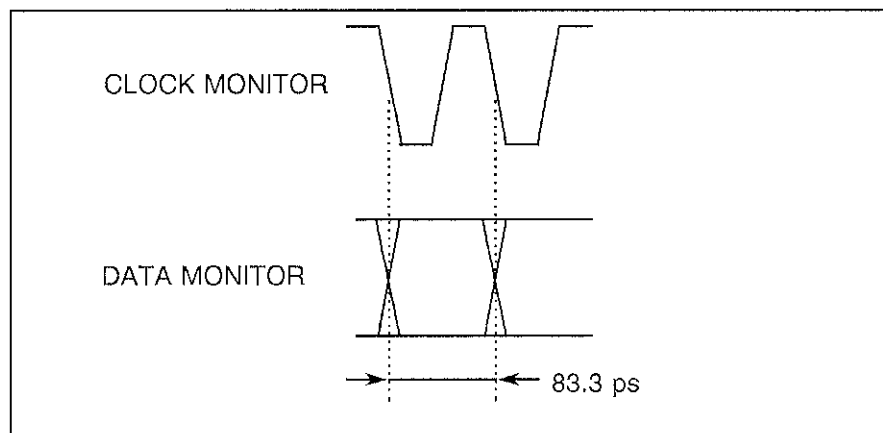

Figure 9-5 Waveform of the CLOCK MONITOR and DATA MONITOR Output Signals (f = 12000 MHz)
- (5) If the waveform on the oscilloscope is a square wave which is similar to the one shown in the upper half of Figure 9-5, the CLOCK MONITOR signal is evaluated as normal.
- (6) If the waveform on the oscilloscope is an eye pattern which is similar to the one shown in the lower half of Figure 9-5, the DATA MONITOR output signal is evaluated as normal. However, the relationship between phases of the CLOCK MONITOR and DATA MONITOR signals depends on the delay setting.